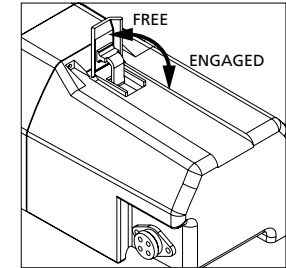

Figure 13
Release tension on the wire rope by jogging out some of the wire rope. Releasing the clutch and pull out the wire rope and secure to anchor or load. Check that there are at least five (5) turns of wire rope left on the drum. Re-engage the drum by returning the clutch lever to the "Engaged" position (Figure 13).